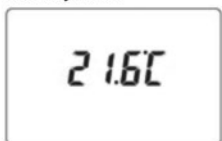

Fig. 15
3. Then the operating mode just before the last switch-off appears (stand-by (Fig 15), manual (Fig 16) or automatic (Fig 17), together with the approximate room temperature.
4. When in "Standby" mode (Fig. 15), press the "Standby" button to switch the heater on (Figure 13). The heater comes on and the last selected operating mode symbol appears on the screen. In addition, the approximate room temperature is displayed.